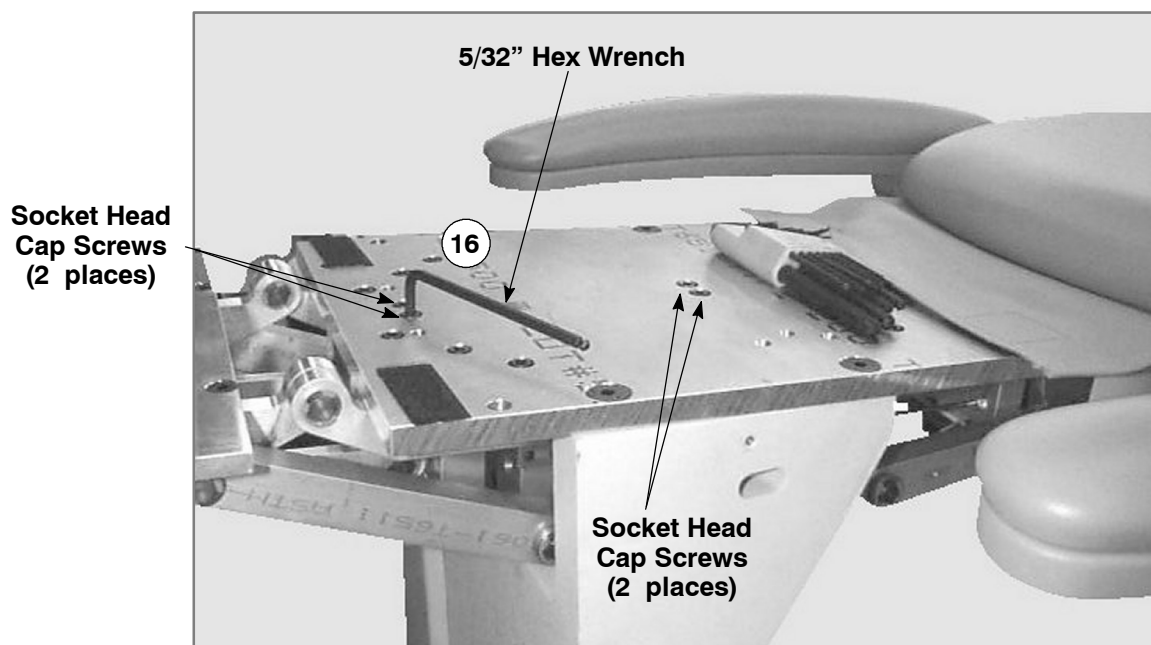

Figure 4-11. Removing the Upper Hydraulic Cylinder
16. Using the 5/32" hex wrench, remove the four socket head cap screws that attach the Upper Hydraulic Cylinder to the chair frame. See Figure 4-11.